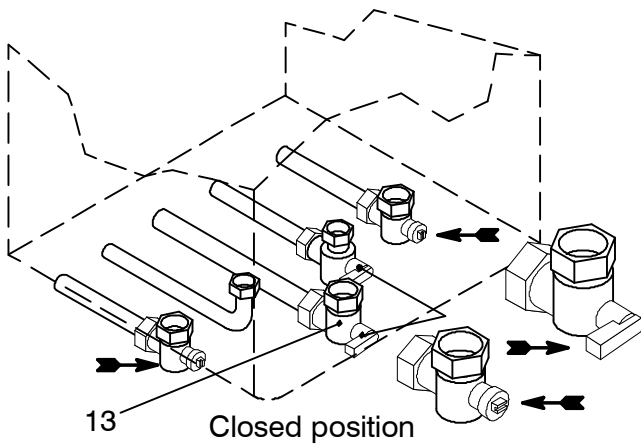

fig. 2.13
- 2 Shut off the gas supply cock 13 and the valves for the water circuits fitted under the boiler (fig. 2.13).